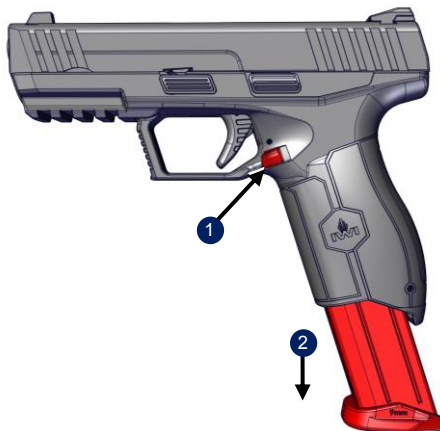

Fig. 1
2. Press the magazine catch (1), and remove the magazine (2) (Fig. 1).